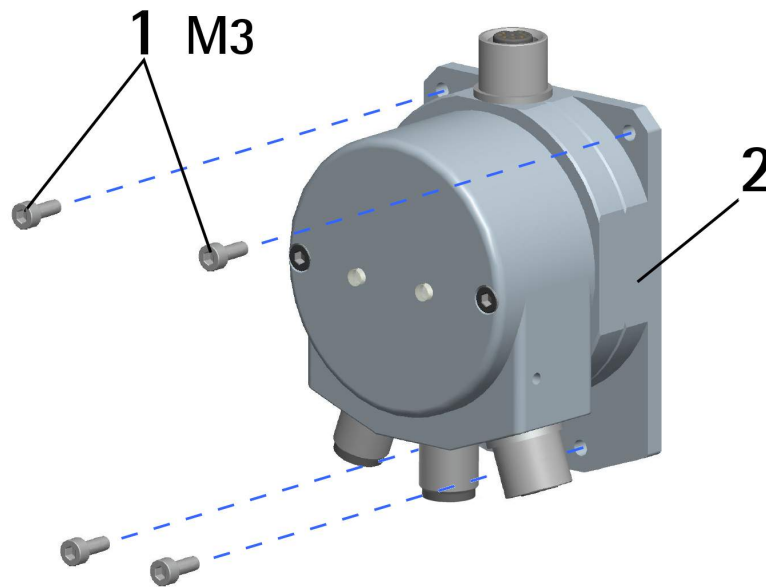

Figure 2
3.2 Installation on panel (Figure 2)